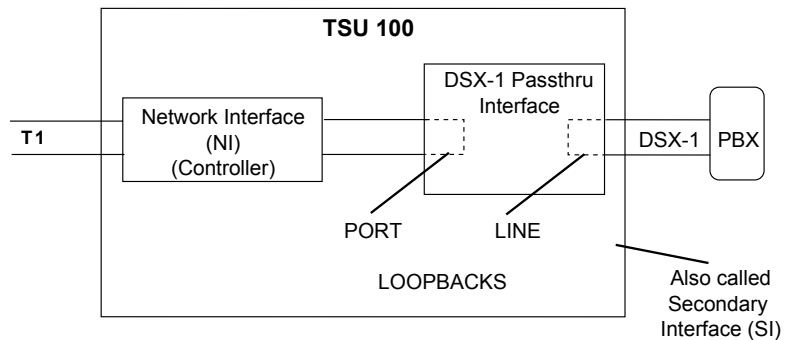

Figure 3-3. Diagram of Loopbacks
The **Port Loopback** is internal and loops all data mapped to the DSX-1 Passthru back toward the network interface on the controller. **Loopback** (when used in conjunction with an external bit error rate tester (BERT) driving the network interface) exercises the entire data path from the network interface (NI) controller, through the DSX-1 Passthru option module, and back out the network interface controller. See Figure 3-3.